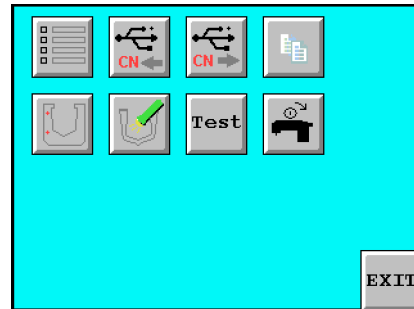

Fig.10
11.1.3 Press the button “SETTING” . The screen as fig.10 will appear